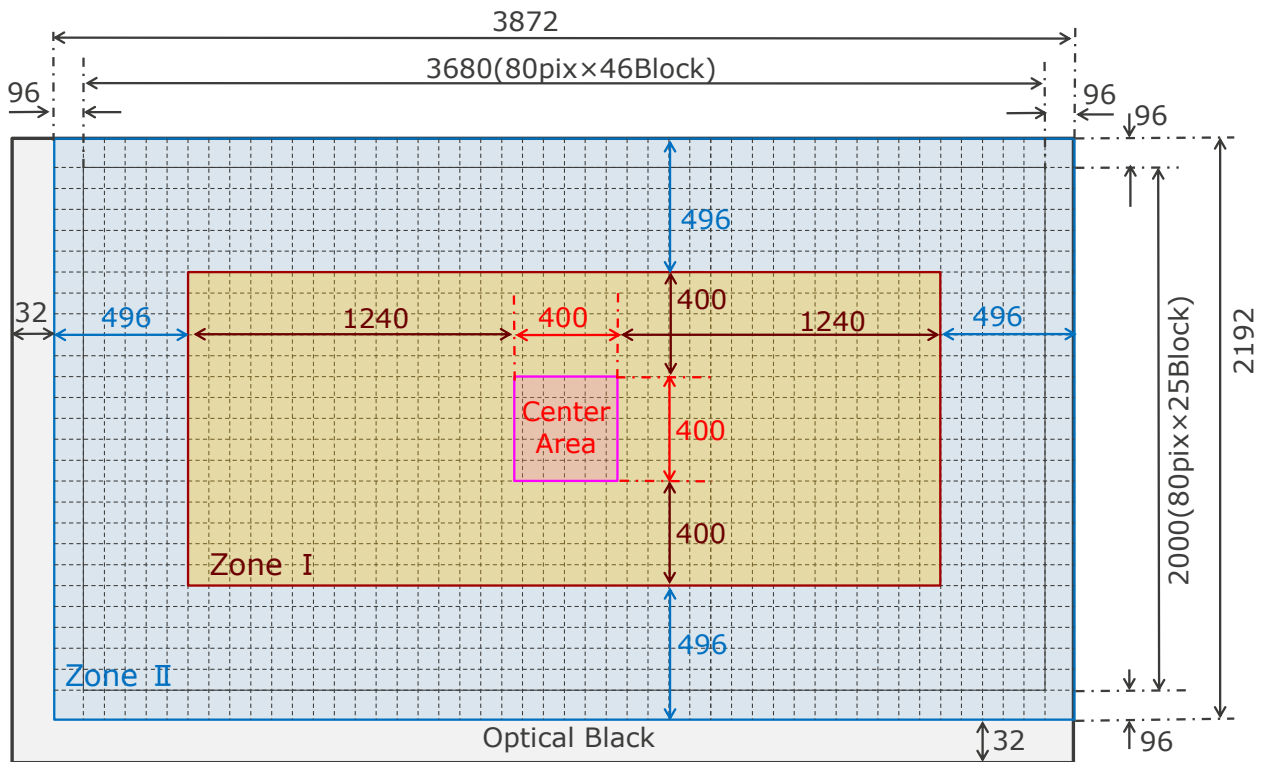

Figure 7 Pixel characteristics calculation area
center area : please refer to **Figure 7**.
- (1) ZoneII divide to 48×27 blocks. 1 block is 80×80, 96×96, 96×80 or 80×96 pixels. Please refer to **Figure 7**.
- (2) Averaging output data in a block, R/G/B respectively.
- (3) $SHADE_R/G/B=(MAX-MIN)/(Ave.@center\ area)$
- (1) ZoneII divide to 48×27 blocks. Please refer to **Figure 7**.
- (2) Averaging output data in a block, Gb and Gr respectively. ----- AVE_Gb/AVE_Gr
- (3) $LINE_C_R/G/B=(AVE_Gr-AVE_Gb)/\{(AVE_Gr+AVE_Gb)/2\}\times 100$